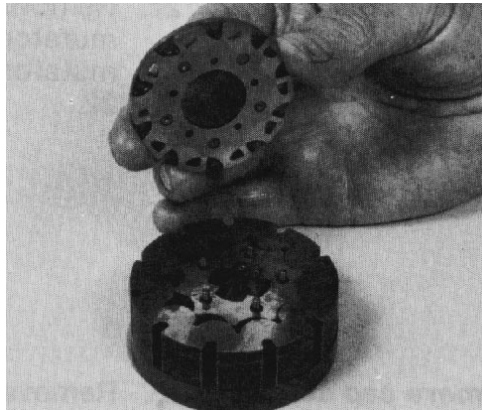

Figure 48
31. Remove the commutator from the rotor (Fig. 48).